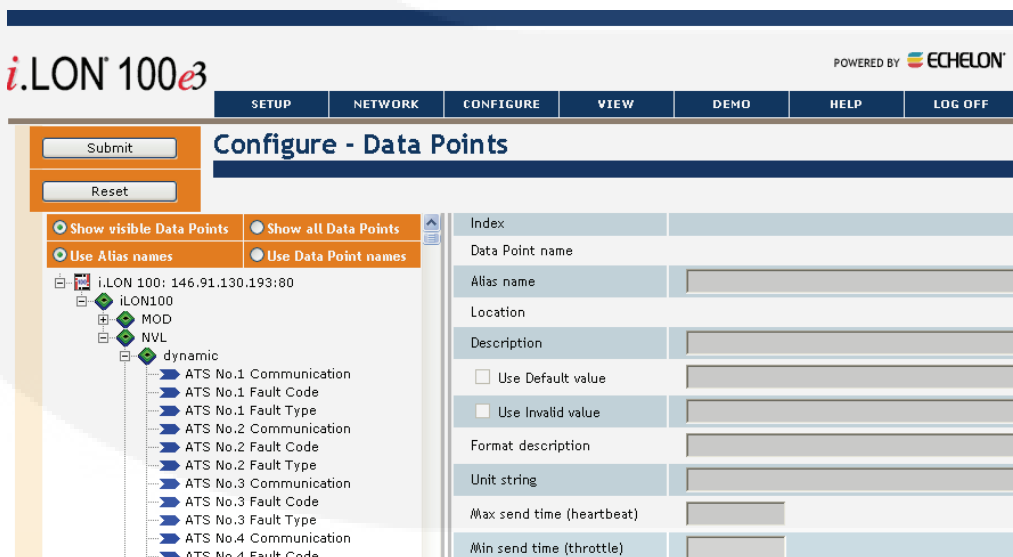

FIGURE 6-9. AVAILABLE ALARMS
4. On the “Configure Data Points” screen, click on the left hand side (+ sign) next to the *i.LON* 100 (see Figure 6-9).